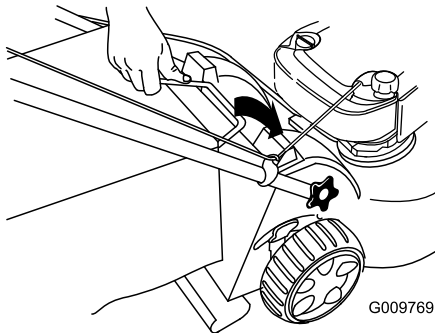

Figure 31
3. Insert the grass-bag handle into the grooves at the top of the machine (Figure 31).